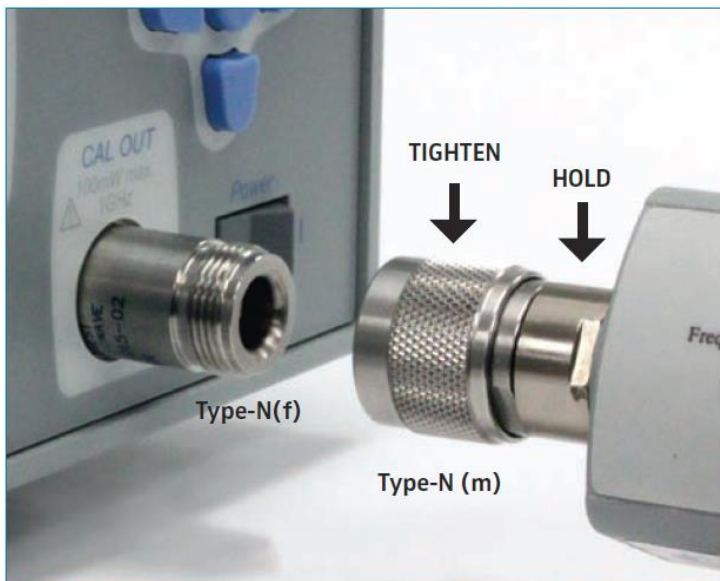

Figure 7.1 Hold the connector body while rotating the knurled nut to tighten or loosen the connector.
- After proper alignment, rotate the connector nut by hand to connect or disconnect the connector of the sensor from a signal source as shown in Figure 7.1.